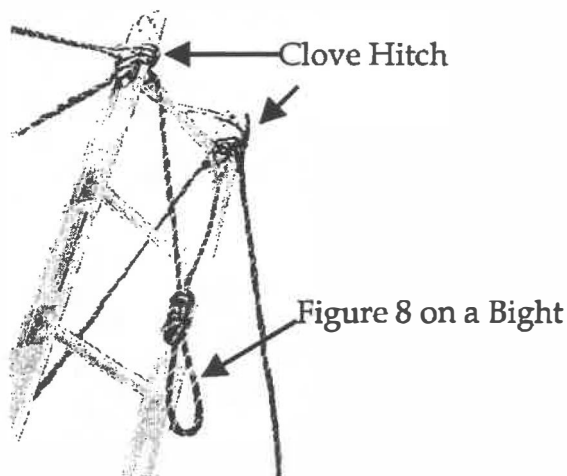

Figure 7-2
- Attach a clove hitch to each ladder tip (Figure 7-2). With the ladder laying flat on ground, center the figure eight on a bight so that it will form a sling with an interior angle of less than 90 degrees. (Disregard this step if using webbing slings.) If creating slings with both ropes, have the slings at slightly different lengths. Tie a clove hitch around each tip of the ladder.